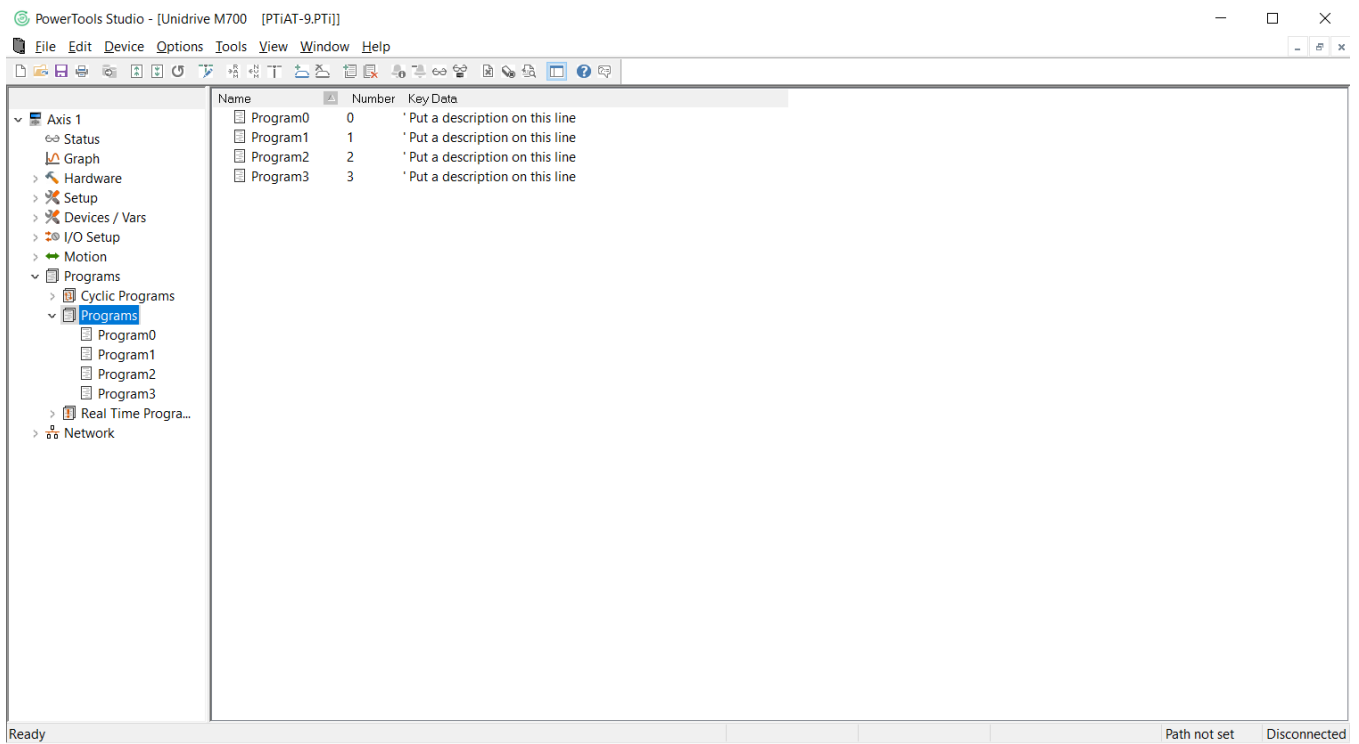

Figure 6
2. Click the “Add New Program” icon on the software toolbar 3 times to add 3 new programs as shown in Figure 6.